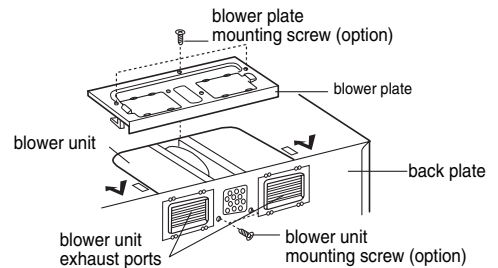

Figure 18
7. Reattach the blower plate to cabinet so the exhaust ports and blower plate opening are aligned. Attach with one blower unit mounting screw and then one blower plate mounting screw. See Figure 18.